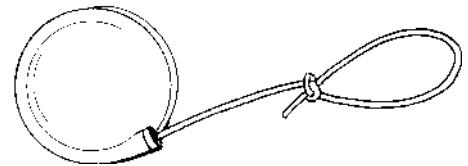
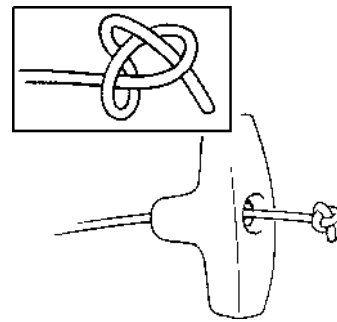

Figure 4.2 Slip knot
Figure 4.9 Installing the handle
Pull 8 to 10 inches of starter cord from the recoil housing and tie a slip knot (Figure 4.2) where the cord enters the housing.
STEP 3. Use a slip knot (Figure 4.2) to prevent the starter cord from rewinding, then thread on the handle and related components in the reverse order of removal. Place a stopper-knot at the end of the cord (Figure 4.9), remove the slip knot at the recoil housing, then allow the cord to rewind.